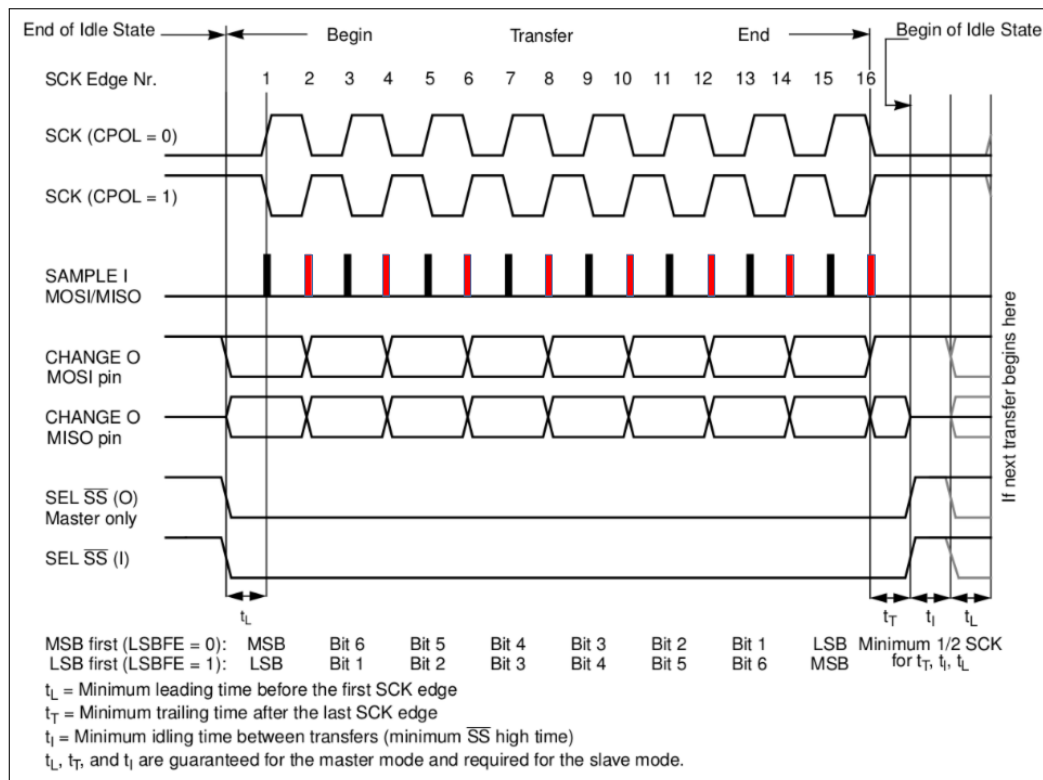
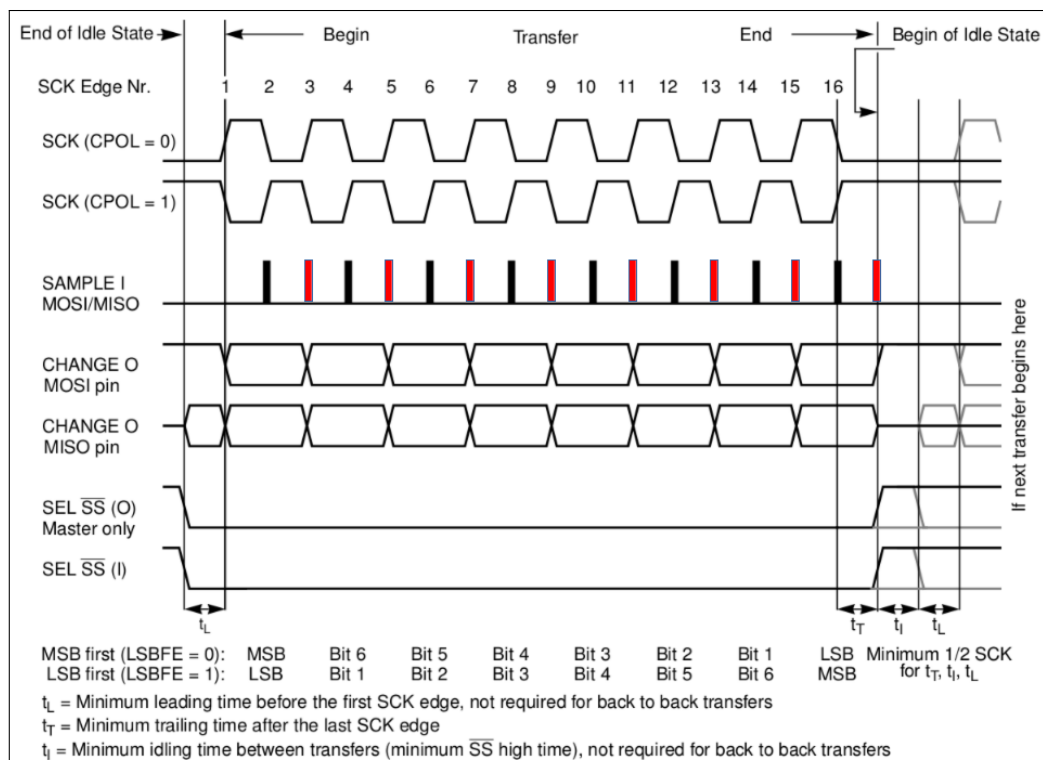

Figure 23.7-1. SPI Clock Mode 0 or 2
Figure 23.7-2. SPI Clock Mode 1 or 3
SPI protocol has four clock modes, i.e., modes 0~3. See Figure 23.7-1 and Figure 23.7-2.
- In master mode, the default compensation scheme delays SPI_CLK by half a cycle. Refer to Figure 23.7-1 and Figure 23.7-2. You can also switch to standard sampling via register configuration.